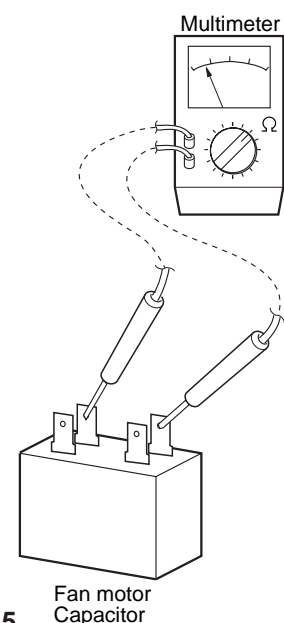

Fig. 45
- ⑤ **Fan motor capacitor ..... Both in indoor and outdoor unit**
- Remove the lead wires from the capacitor terminals, and then place a probe on the capacitor terminals as shown in **Fig. 45**. Observe the deflection of the pointer, setting the resistance measuring range of the multimeter to the maximum value.